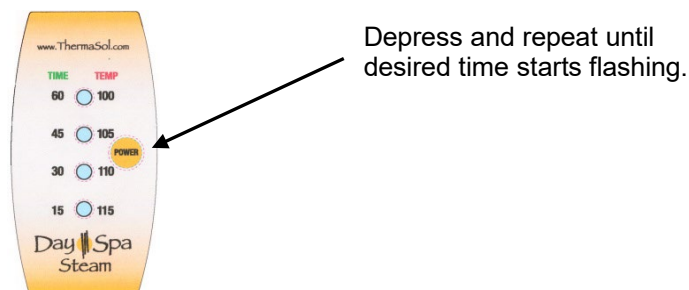

Figure 8
2. **Changing Session Time.** While the green LED is still flashing (within 4 seconds), momentarily press the “Control Button”. Repeat until the green LED associated with your desired time starts flashing. Once the desired time is flashing, wait 4 seconds and that time will be accepted by the control. **(Figure 8)**